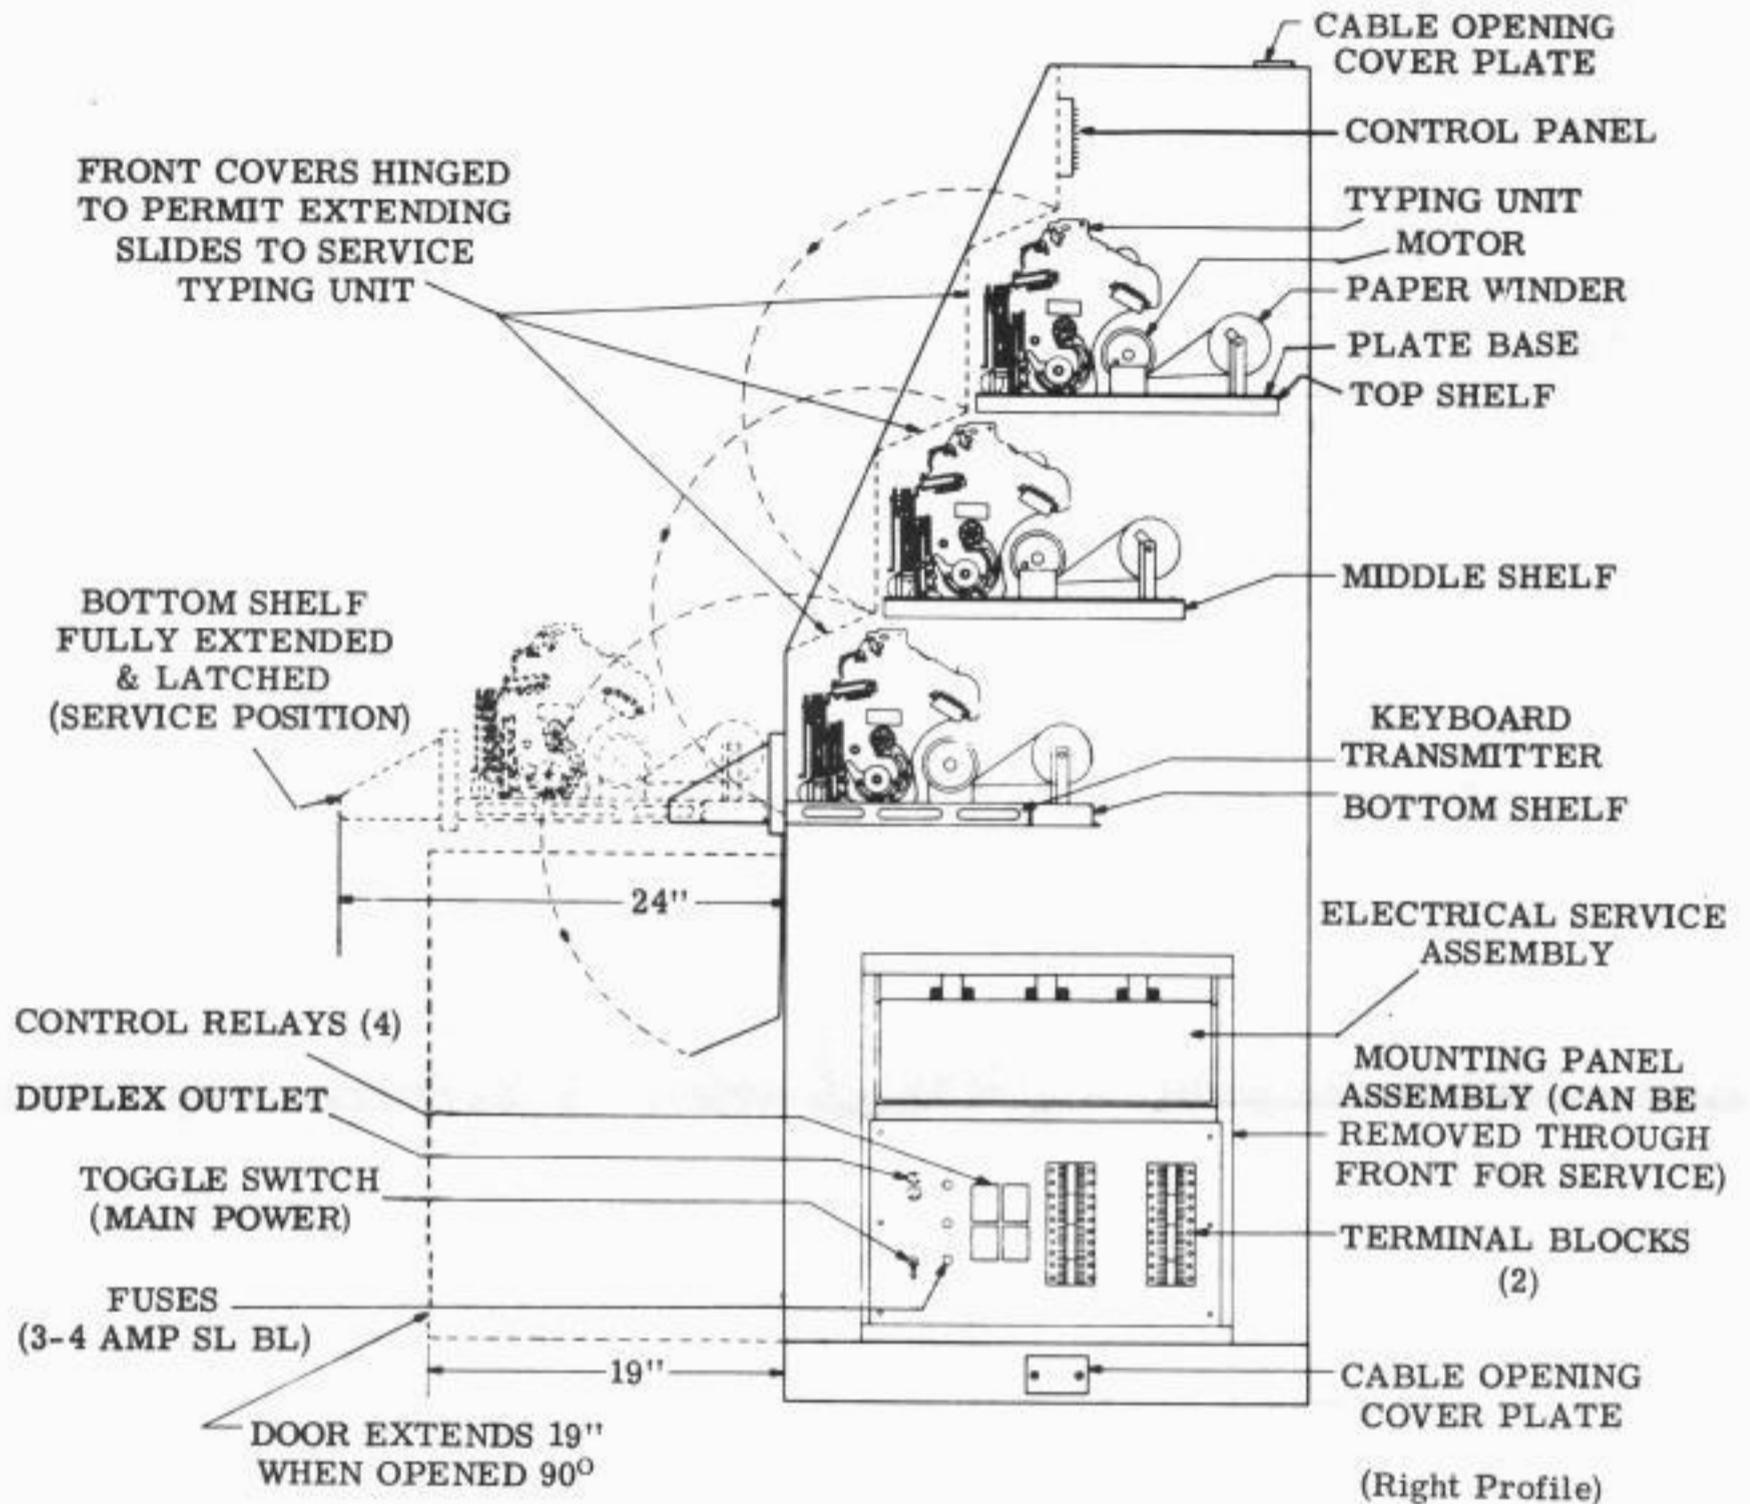

Figure 18 - Multiple Mounted Set
B. Installation of Cabinet (Figures 18, 19, and 20)